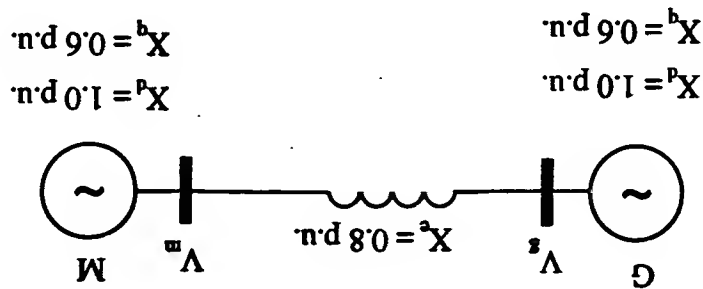

Figure 2
4. In the two-machine system shown in Figure 2, the excitations of the two machines are so controlled that the terminal voltages of the two machines remain constant and equal to 1.0 p.u.